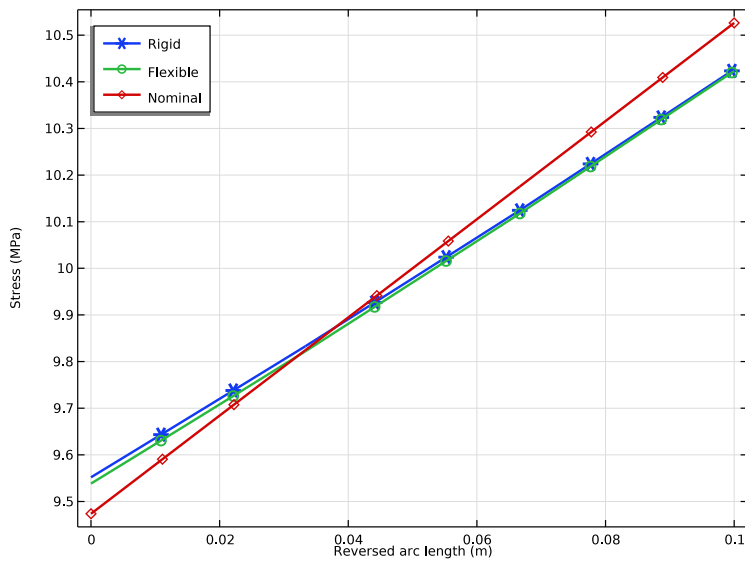

Figure 8: Equivalent stress through the thickness at the transitions (torsion).
- The stress at the transitions is shown in Figure 8. The nominal stress level is the theoretical value. The linear through-thickness distribution is predicted by the torsion theory, and the equivalent stress shows no influence of other stress components than the shear stress.